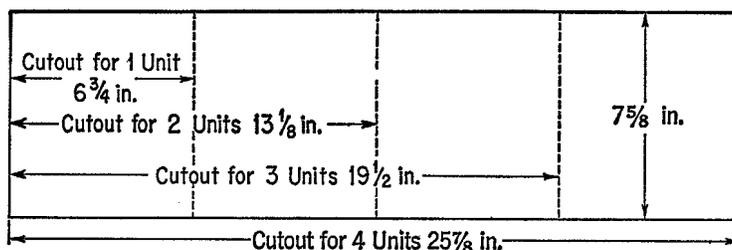

Fig. 1 — Size of Cutout for 101B Key Equipment
3.01 A suitable desk, table, or countertop, cut as shown in Fig. 1, shall be furnished by the customer for installing the framework and flush-mounted key units at 101B key equipment installations.